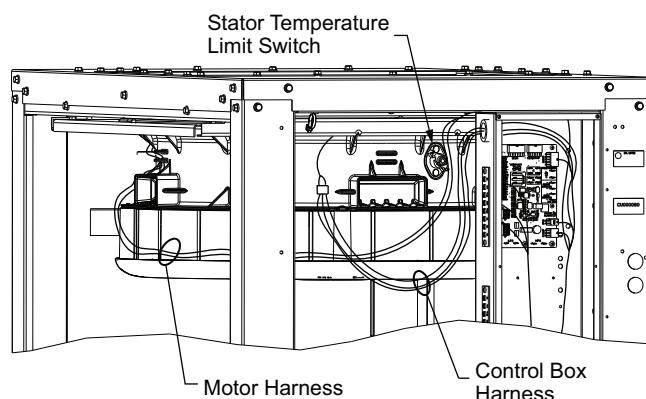

Fig. 25 – Locations of Motor Harness and Stator Temperature Limit Switch
1. Unplug motor harness from control box harness. See Fig. 25.
2. Unplug connectors from stator temperature limit switch. See Fig. 25.